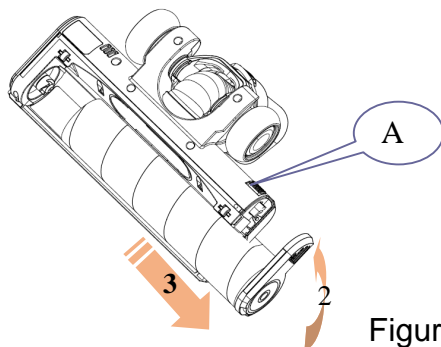

Figure 7f
Press and hold the brush release button (A), pull the lever at the side and pull out the brush roller from the slot (Figure 7f). Wash the filters gently under a running tap and let it dry thoroughly before putting it back - put the brush roller back by sliding it to the slot and then lock the lever.